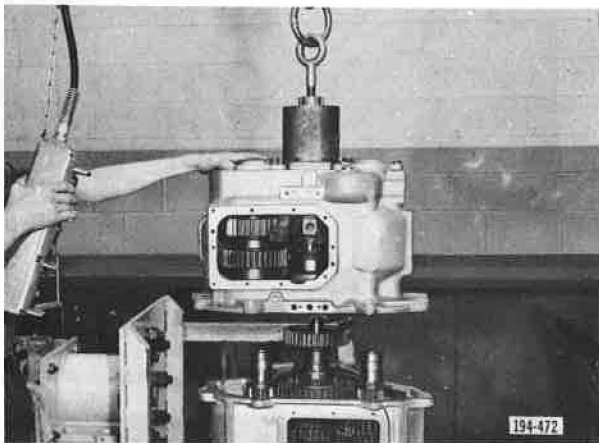

Figure 5-971. Installing Rear Case
2. Install front case to rear case, with the aid of a hoist. See Figure 5-971.